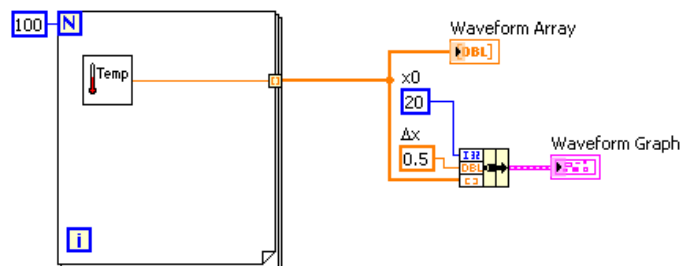

Figure 5.19
1. Modify the block diagram as shown in Figure 5.19.
- a. Place the Bundle function, located on the Functions»All Functions»Cluster palette, on the block diagram. This function assembles the plot elements into a single cluster. The elements include the initial x value (20), the $\Delta(x)$ value (0.5), and the y array of waveform data.
- d. Wire the block diagram as shown in Figure 5.19.